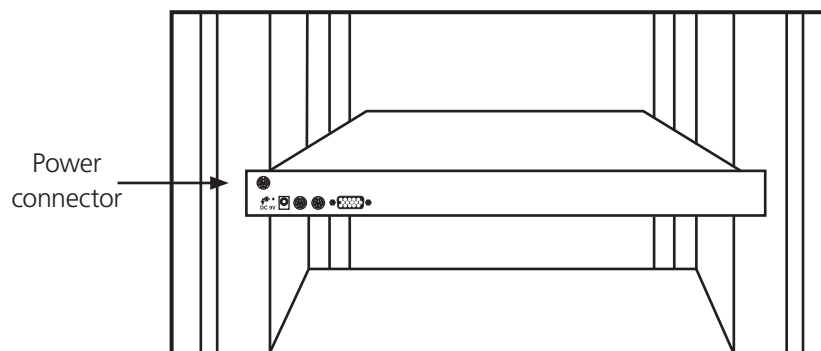

Figure 3-12. Attaching the power supply to the module.
9. Connect the power supply to the power jack on the switch module. See Figure 3-12.